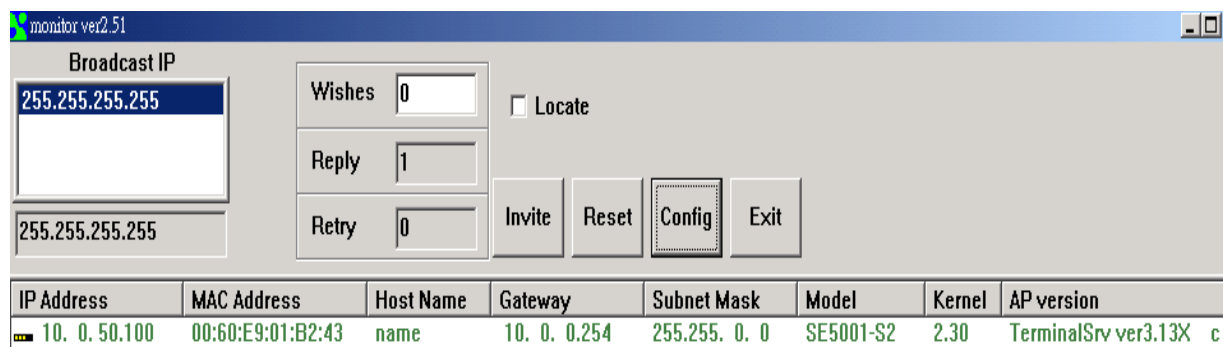
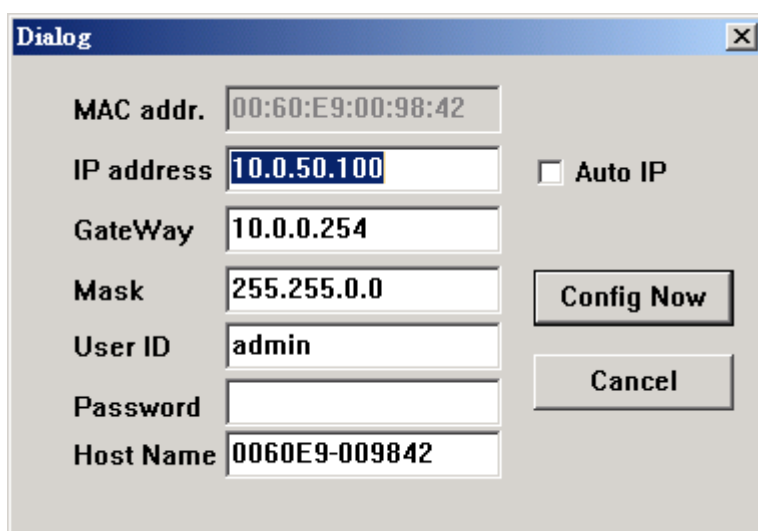

Figure 3.1. Configure by monitor.exe utility
Figure 3.2 Static IP setup dialog window
Use **monitor.exe** that comes with product CD to configure the network parameters of GW212/GW215. Please click "**Config**" button(ref Figure 3.1) then give it a static IP information.(ref Figure 3.2)
->Execute Monitor.exe(ref Figure 3.1)